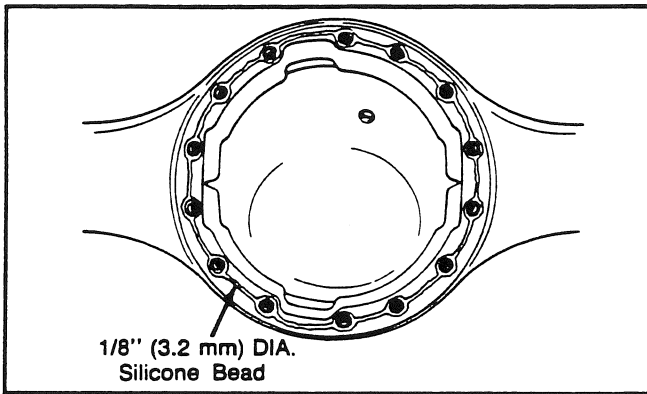

Fig. 95
2. Apply a uniform bead of silicone sealant P/N 56247 to the housing mounting surface (see Fig. 95). Use a safe lifting device and install the carrier into the housing.